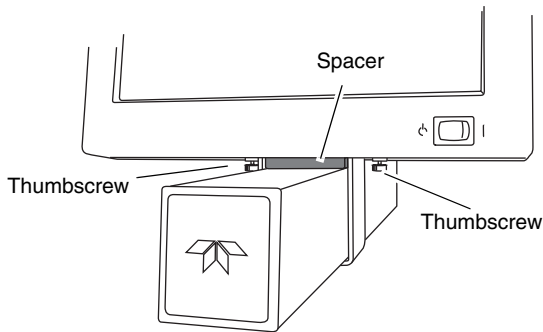

Figure 3-1 Remove arm stowing bracket and spacer
1. Loosen the bracket's two thumbscrews along the sides of the arm (Figure 3-1).